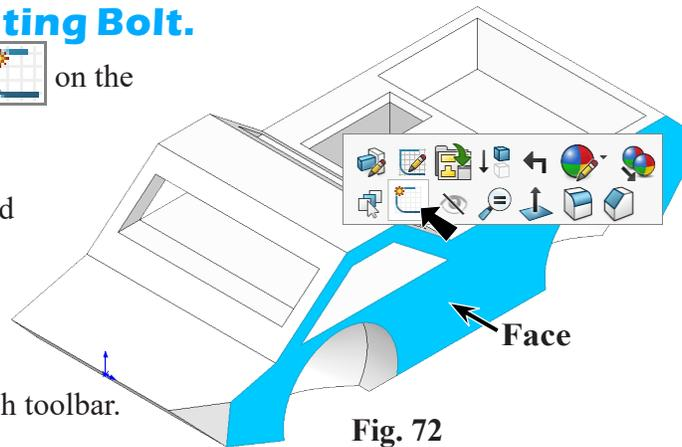

Fig. 72
Step 1. Click the **side face** and click **Sketch**  on the context toolbar, **Fig. 72**.